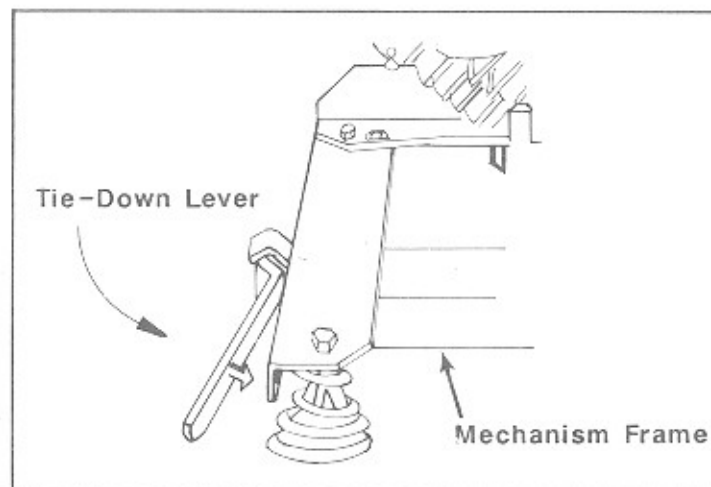

Figure 1-4. CD Changer Tie-Down Levers
2. Remove the shipping tape from the front ends of the mechanism tie-down levers on the side of the mechanism frame (see *to figure 1-4*).